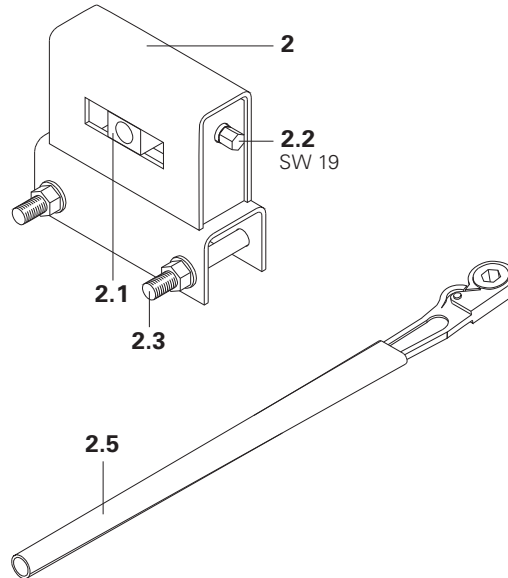

Fig. B3.01
- Adjusting Unit CB 160 (2)
- (Fig. B3.01)